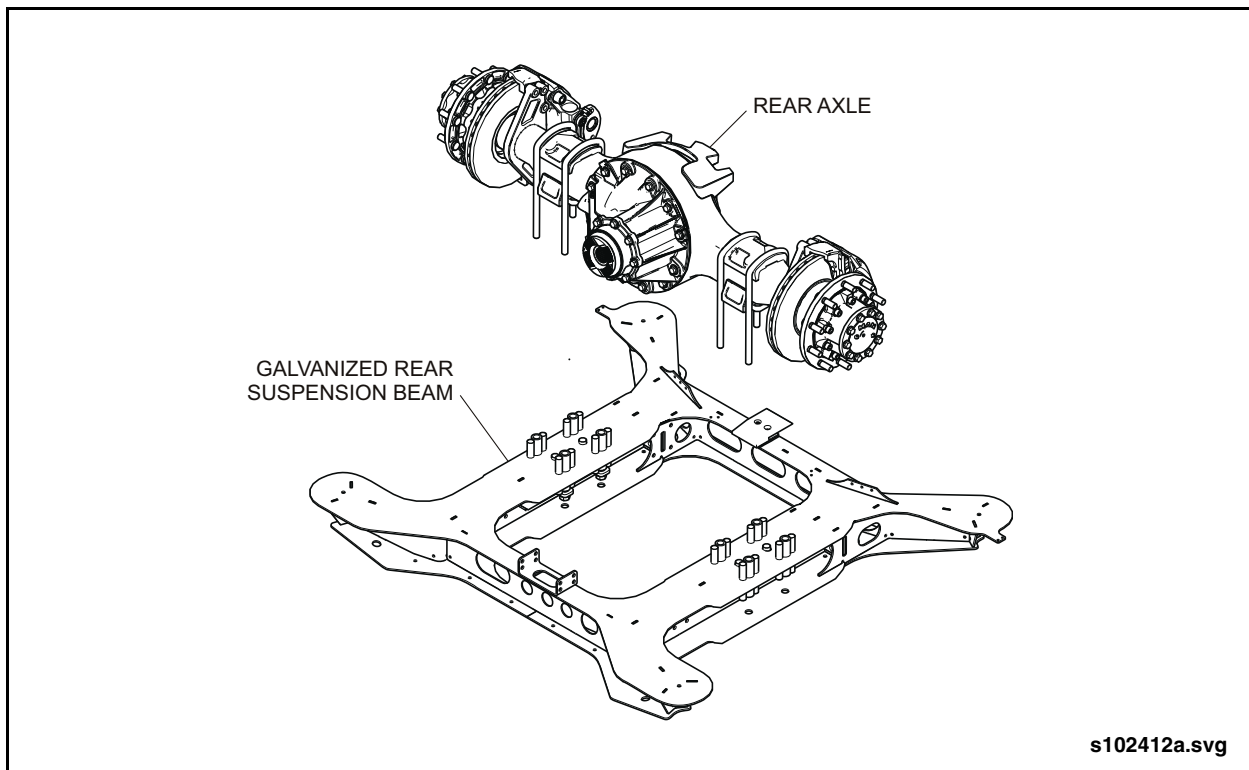

Fig. 1-1: Rear Suspension Beam
- Rear Suspension Beam. See “Fig. 1-1: Rear Suspension Beam.”